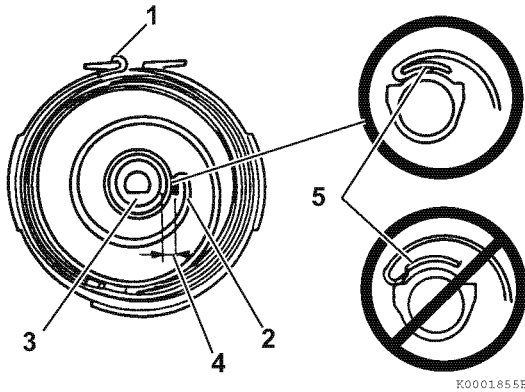

Figure 8-41
1. Securely hook the spring end to the starter housing (1, **Figure 8-41**). Install the recoil spring by carefully winding it into the housing as shown (5, **Figure 8-41**).
2. Adjust the shape of the inner end (2, **Figure 8-41**) of the spring so it is about 0.157 in. (4 mm) (4, **Figure 8-41**) from the starter spindle (3, **Figure 8-41**).
3. Lightly lubricate the spindle with lithium-based multipurpose grease (3, **Figure 8-41**).
5. Place the reel (3, **Figure 8-41**) into the housing (1, **Figure 8-42**). Be sure the boss (5, **Figure 8-41**) on the reel (2, **Figure 8-41**) engages the spring inner hook.